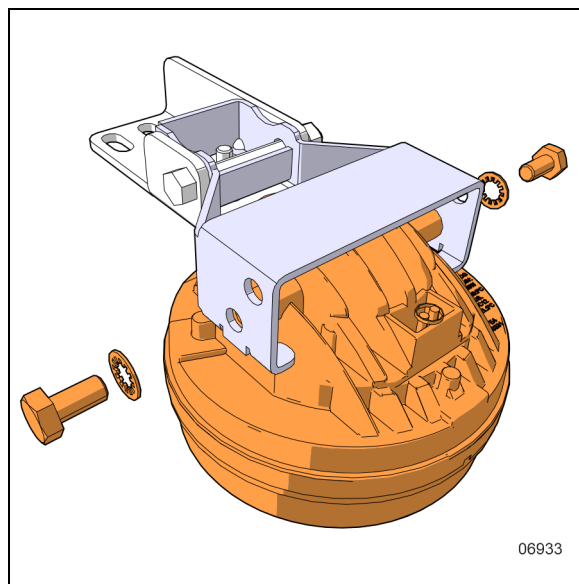

FIGURE 102: FOG LIGHT POD DISMOUNT
4. Install the new fog light pod on the pod support with the existing screws and lockwashers (Figure 102).